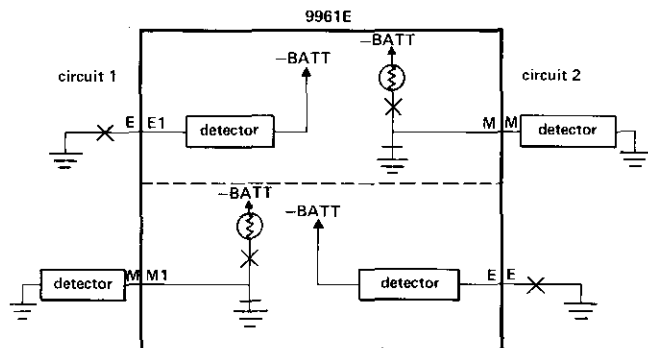

figure 2. 9961E subassembly arranged for M-lead originate
2.02 When the 9961E is optioned for the M-lead-originate mode (S1 set to the M position), it acts as a Type I E&M pulse link repeater (figure 2). From either direction of transmission, the 9961E accepts an E lead that originates with a ground state and provides an M lead that originates with negative battery.